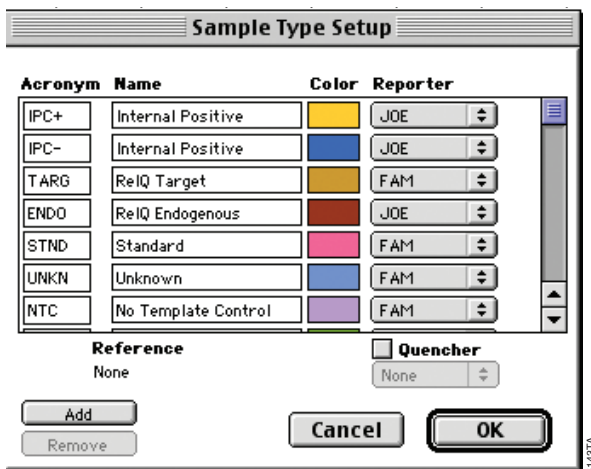

Figure 3. Example of a new “Unknown” sample type for the JOE dye layer.
- a. To add the sample type “unknown” for the second dye, highlight the Sample Type and select “Sample Type Setup” (Figure 3).